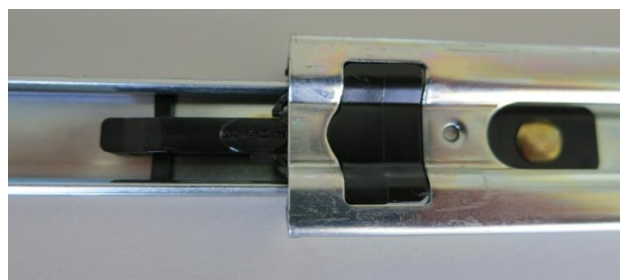

Figure 150 – Separate Rack Slides
2. Separate the slide rail assembly by pressing the black plastic clips in the slide rails to remove the inner section of the rail (refer to Figure 150).